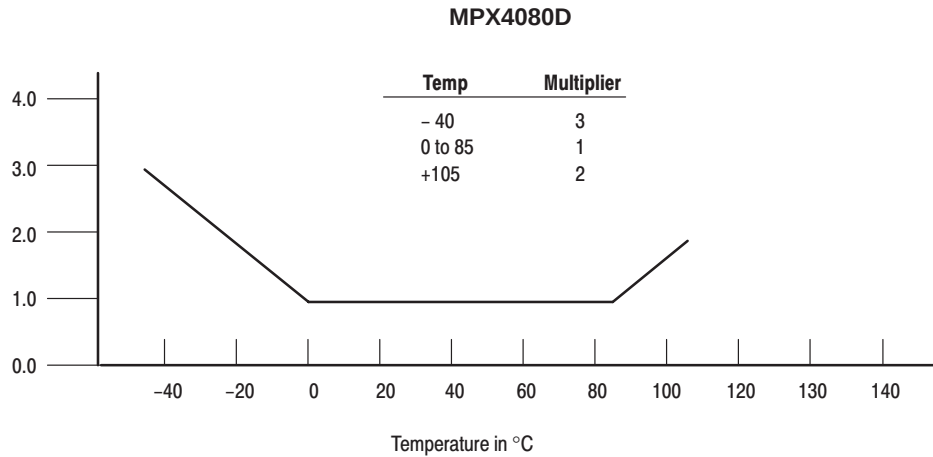

**Figure 4. Recommended power supply decoupling and output filtering.**
**OPERATING CHARACTERISTICS** (VS = 5.1 Vdc, TA = 25°C unless otherwise noted, P1 > P2. Decoupling circuit shown in Figure 4 required to meet electrical specifications.)
Figure 2 shows the sensor output signal relative to differential pressure input. Typical, minimum, and maximum output curves are shown for operation over a temperature range of 0° to 85°C using the decoupling circuit shown in Figure 4. The output will saturate outside of the specified pressure range.
Figure 4 shows the recommended decoupling circuit for interfacing the output of the integrated sensor to the A/D input of a microprocessor or microcontroller. Proper decoupling of the power supply is recommended.